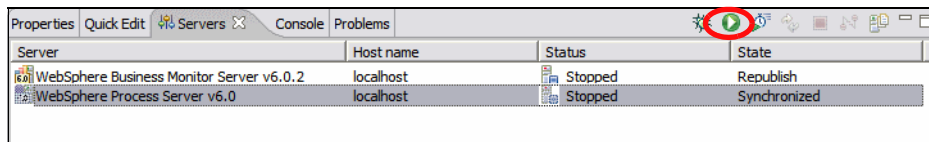

Figure 10-4 Start WebSphere Process Server v6.0
- ▶ In the Web perspective, open the Servers view, select *WebSphere Process Server v6.0* and then click  to start the server (Figure 10-4). Wait until the server is started and the Console view shows the server console output. Be patient, starting the server takes about 5 minutes.